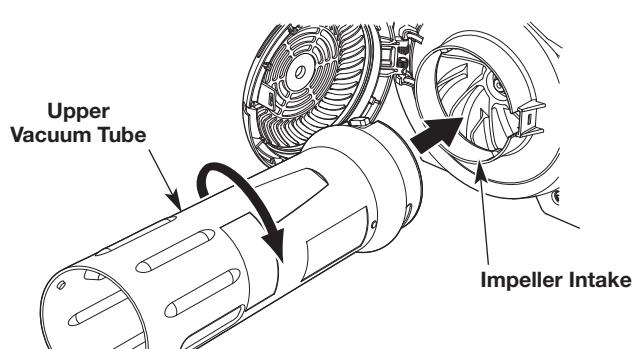

Fig. 4
3. Insert the upper vacuum tube into the impeller intake (Fig. 4).
4. Twist the upper vacuum tube clockwise with both hands until it locks into place (Fig. 4).